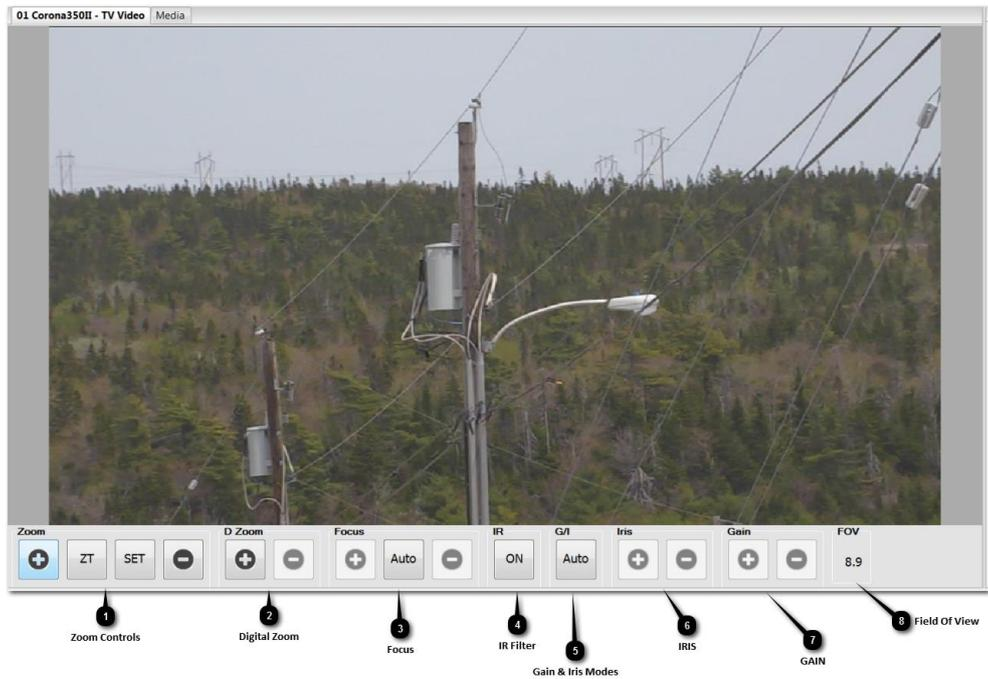

Figure 4 – HD TV Camera Controls in the View-in Main configuration
- High Definition color TV video camera (Figure 4)